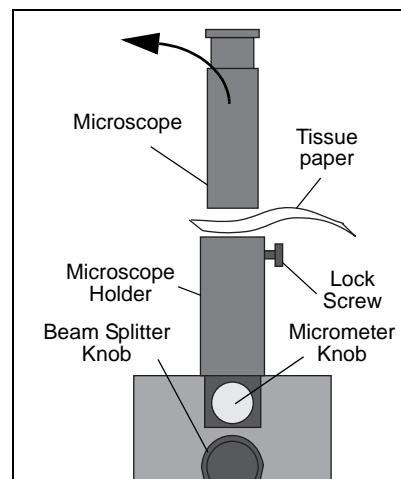

Figure 17: Looking for the Beam Image
- Loosen the lock-screw on the Microscope Holder and remove the Microscope temporarily as shown in Figure 17. Place a piece of tissue paper over the top of the Microscope Holder to locate the beam. Adjust the beam splitter angle and the micrometer knob to center the point image in the tube of the Microscope Holder.